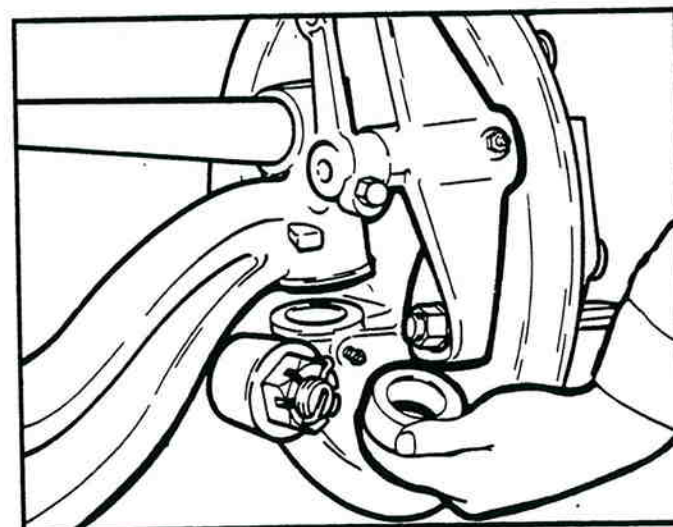

Figure 1-21. Installing Thrust Bearing (No Seal).
2B. Thrust Bearings Without Seals — With the open side of the thrust bearing facing down, slide the bearing between the lower face of the axle center and the upper face of the lower knuckle yoke. See figure 1-21.
**NOTE:** The thrust bearing must be seated on the face of the lower knuckle yoke. The bearing should always be installed in the axle with the closed retainer face up and the cage face (with the opening) down. See figure 1-21.